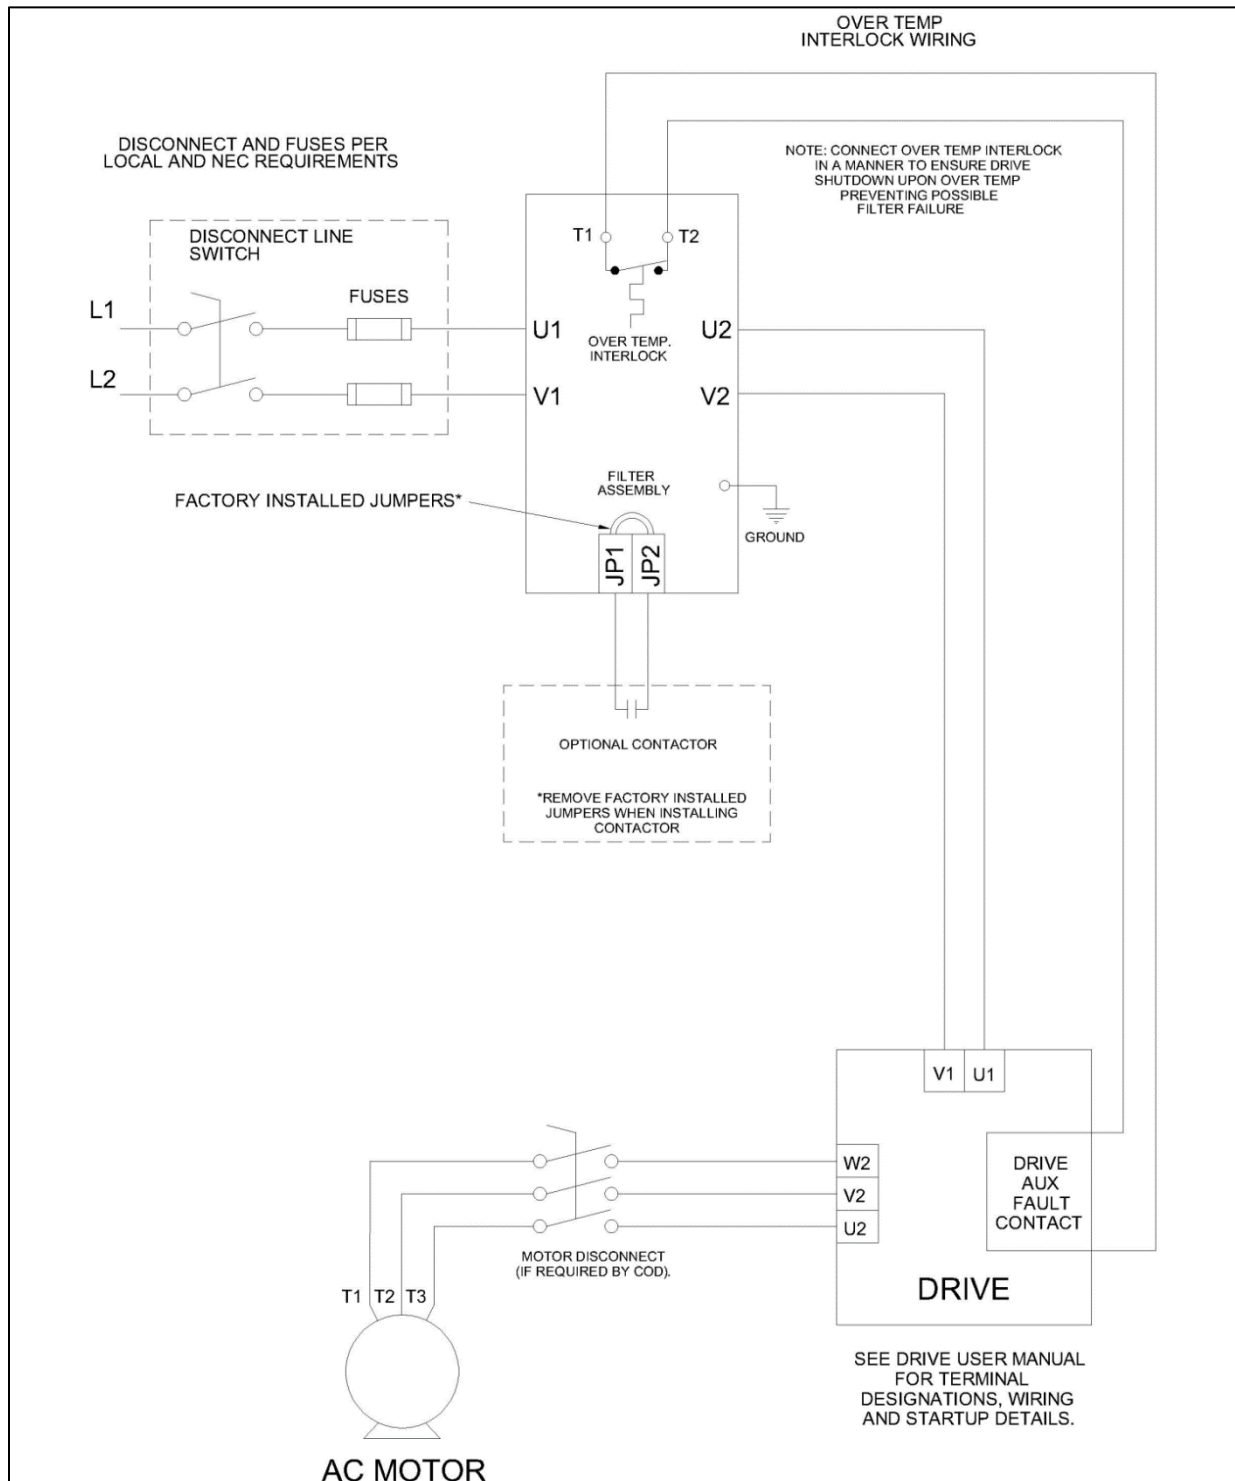

Figure 5-4: Matrix ONE 240V & 480V Enclosed Interconnection
- For filters supplied in general purpose NEMA 1/2 & 3R cabinets, interconnection between the filter, its power source, and the drive is shown in Figure 5-4: Matrix ONE 240V & 480V Enclosed Interconnection (p23).
The Matrix ONE comes with a user configurable contactor wiring block. This option allows the user to add disconnect options to meet their applications. Refer to Figure 5-4: Matrix ONE 240V & 480V Enclosed Interconnection (p23) for the wiring diagram. The units will be shipped with factory installed jumpers as shown in the figure. Jumpers must be removed for installation of contactor option.